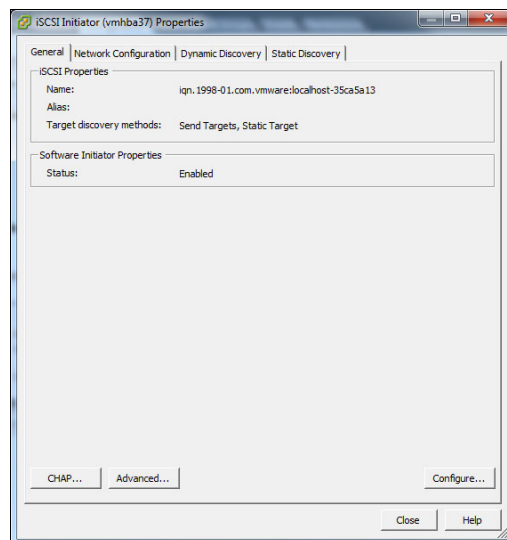

Figure 5-14 The vSphere Client iSCSI initiator properties
3. Select the iSCSI Storage Adapter, right-click, and select **Properties**, as shown in Figure 5-14.